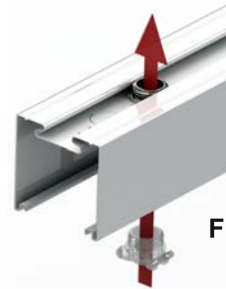

Figure 19
- Install the Clamp Connector by screwing it through the knockout hole and the Clamp Locknut simultaneously. See Figure 19.